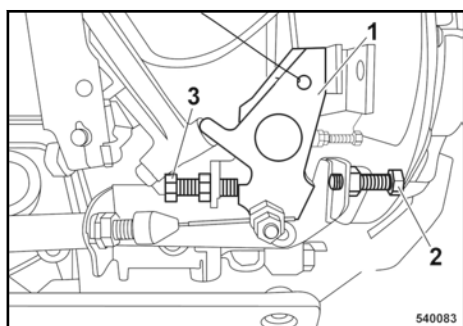

Fig. 71
Adjust the idle speed using the rear stop screw (2) on the engine speed control lever (1) ↪ Fig. 71.